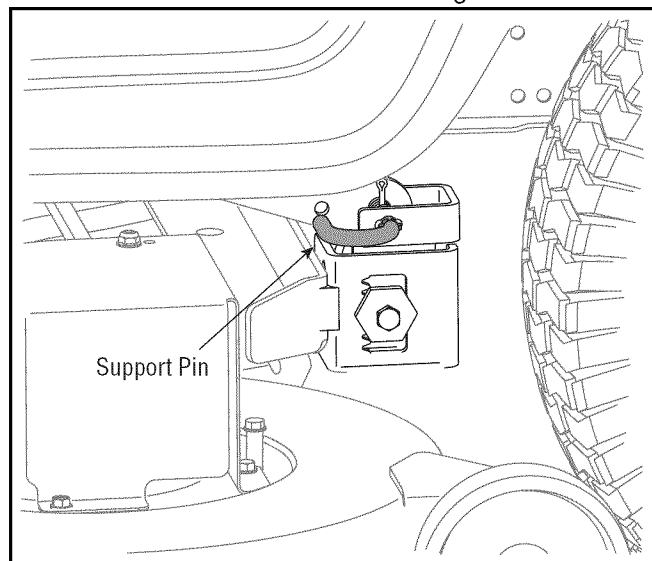

Figure 20
- Pull the deck support pin outward to release the deck from the deck lift arm. See Figure 20.